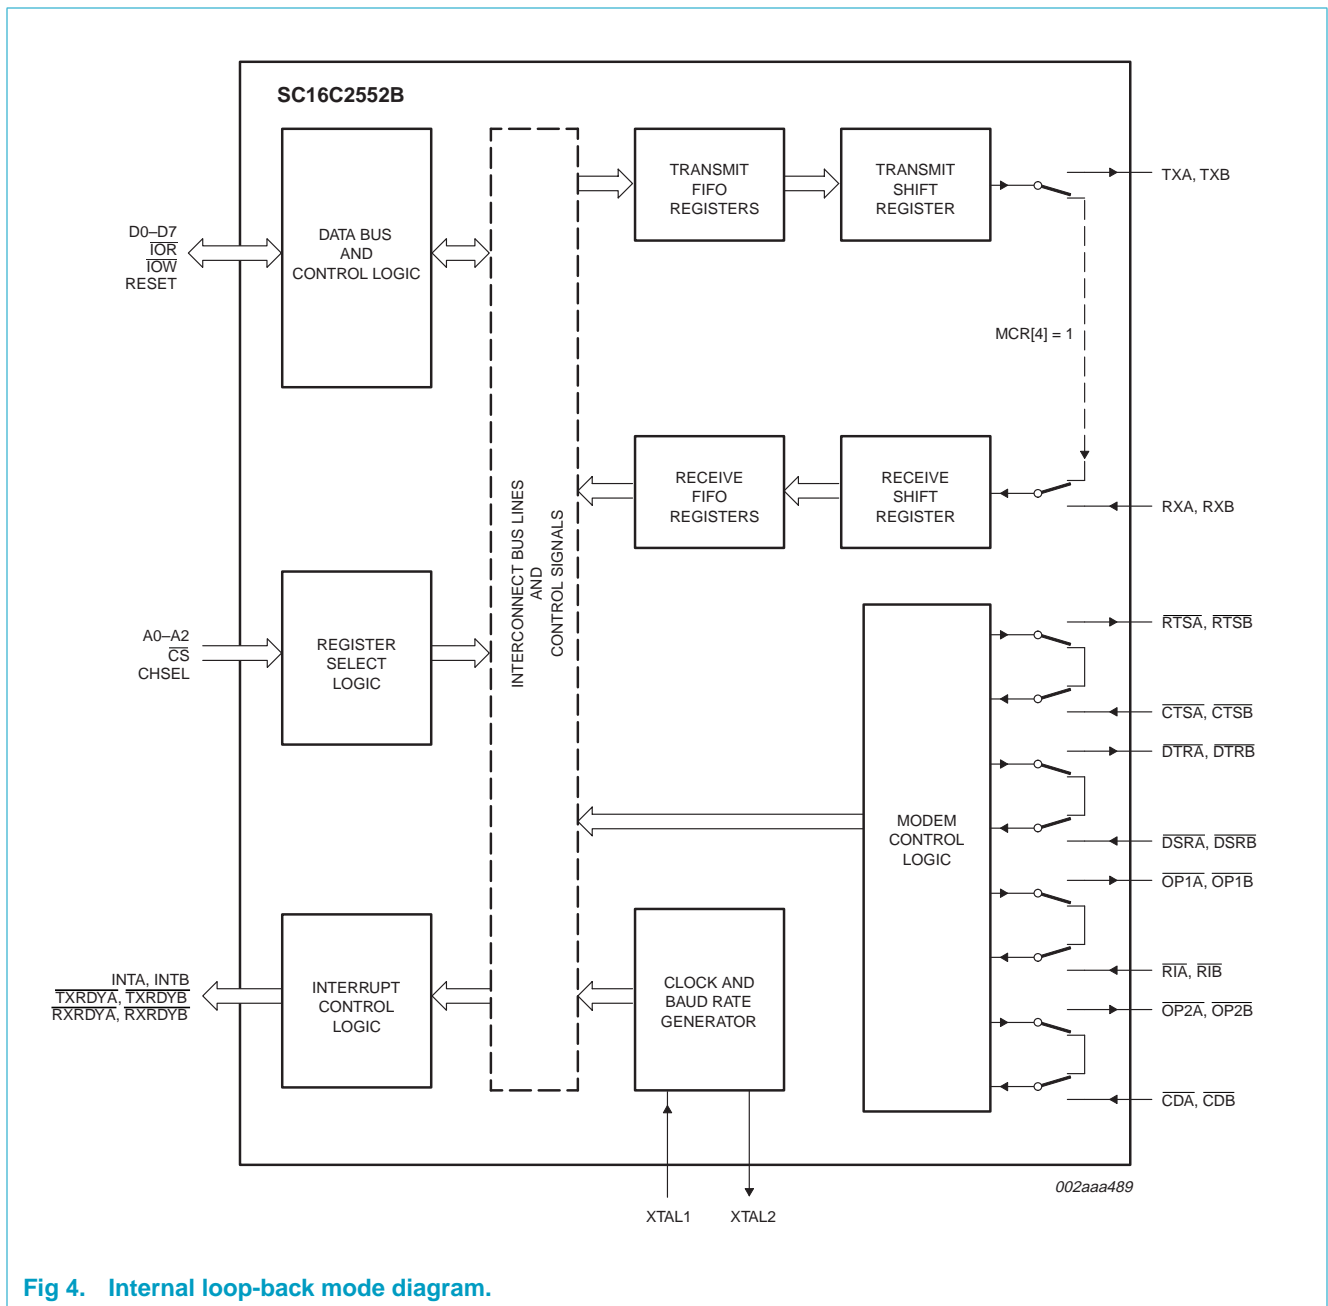

Fig 4. Internal loop-back mode diagram.
The internal loop-back capability allows on-board diagnostics. In the loop-back mode, the normal modem interface pins are disconnected and reconfigured for loop-back internally. MCR[0-3] register bits are used for controlling loop-back diagnostic testing. In the loop-back mode, INT enable and MCR[2] in the MCR register (bits 2-3) control the modem  $\overline{RI}$  and  $\overline{CD}$  inputs, respectively. MCR signals  $\overline{DTR}$  and  $\overline{RTS}$  (bits 0-1) are used to control the modem  $\overline{DSR}$  and  $\overline{CTS}$  inputs, respectively. The transmitter output (TX) and the receiver input (RX) are disconnected from their associated interface pins, and instead are connected together internally (see Figure 4). The  $\overline{CTS}$ ,  $\overline{DSR}$ ,  $\overline{CD}$ , and  $\overline{RI}$  are disconnected from their normal modem control inputs pins, and instead are connected internally to  $\overline{RTS}$ ,  $\overline{DTR}$ ,  $\overline{OP2}$ , and  $\overline{OP1}$ . Loop-back test data is entered into the transmit holding register via the user data bus interface, D0-D7. The transmit UART serializes the data and passes the serial data to the receive UART via the internal loop-back connection. The receive UART converts the serial data back into parallel data that is then made available at the user data interface D0-D7. The user optionally compares the received data to the initial transmitted data for verifying error-free operation of the UART TX/RX circuits.